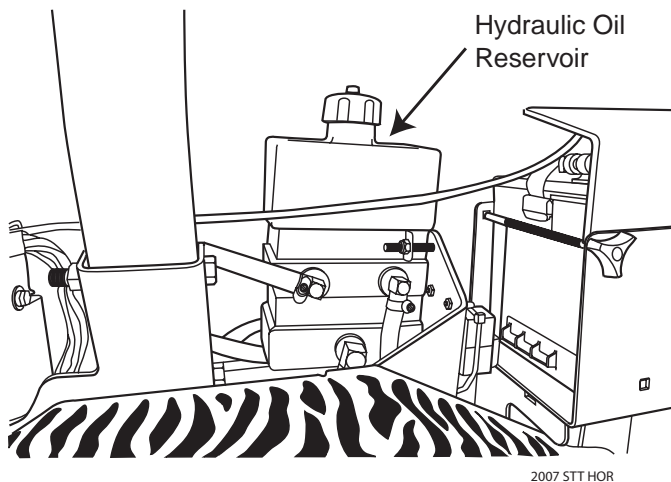

Figure 7-2. Hydraulic Oil Reservoir
2. Place a suitable container under the hydraulic oil reservoir. Remove the fill cap from the reservoir. Remove the drain plug from the bottom of the reservoir. See Figure 7-2. Allow the fluid to drain into the container and properly discard it.